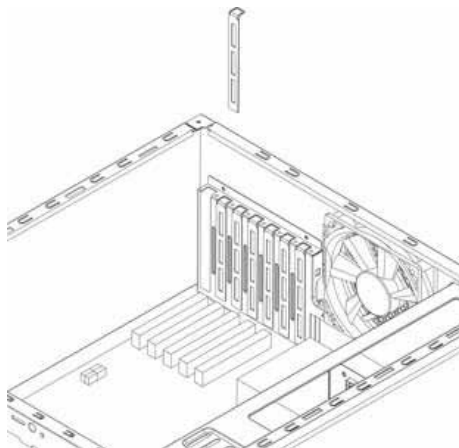

Fig. 6
1. Remove the anchor screw of the slot bezel and take it from the rear side of your PC case (fig. 6).